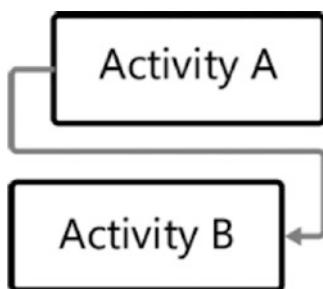

Figure 4-6. Start-to-finish relationship
- *Start-to-finish (SF):* The successor cannot finish until predecessor starts. For example, you may have an activity that is to send the invoice for a product, but the invoice cannot be sent (finished) until delivery of the product has started. This type of relationship is almost never used, because it seems to indicate that the successor should be the predecessor and vice versa. Figure 4-6 depicts how this would be represented diagrammatically.